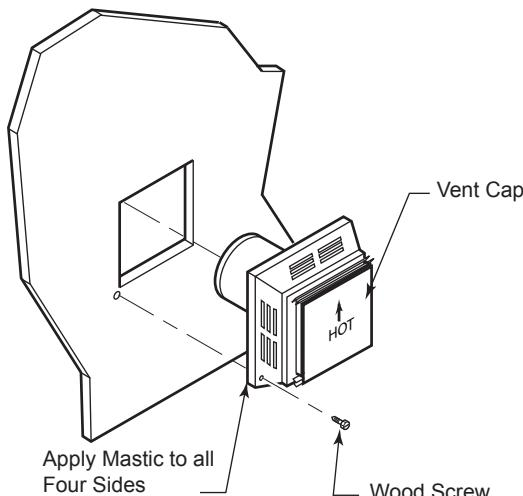

**Figure 16 -
Combustible Exterior Walls: Cut a 10 $\frac{1}{2}$ " x 10 $\frac{1}{2}$ " square hole through the exterior wall frame. *Figure 16*
- The center of the hole should align with the center line of the horizontal rigid vent pipe end. Allow 1/4" minimum rise per foot. *Figure 16*